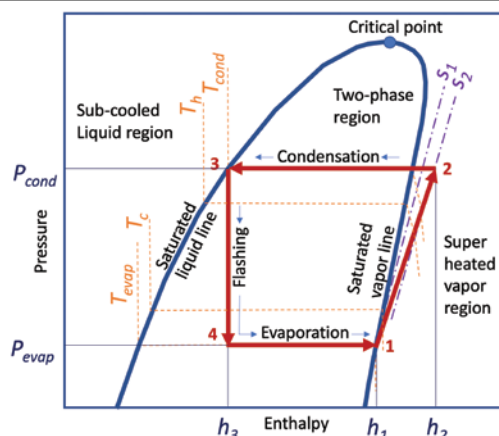

FIGURE 1. A pressure-enthalpy diagram for a basic refrigeration cycle is shown here
Heat pumps are devices or systems that extract heat from at least one source and transfer it to at least one sink at a higher temperature. A basic heat pump is based on the refrigeration cycle. Figure 1 illustrates the basic heat-pump steps over a generic pressure-enthalpy diagram:
The theoretical maximum coefficient of performance that can be achieved by the basic vapor compression cycle in Figure 1 is given by Equation (4):
For cooling service, the useful energy in Equation (2), E_u , can be expressed as the heat extracted from the low-temperature source. Assuming the same vapor compression cycle on Figure 1, the COP for cooling then becomes: